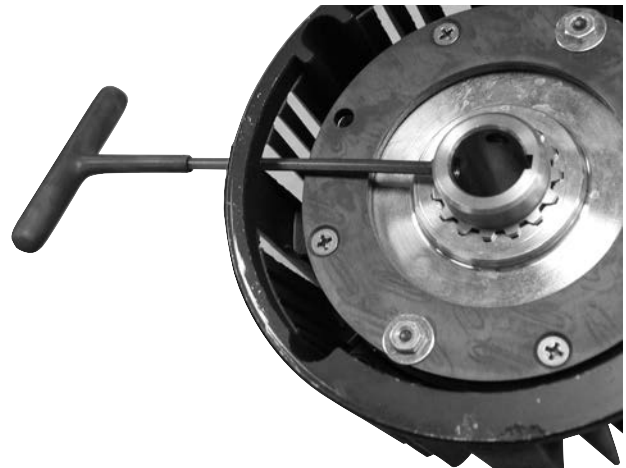

Figure 2
3. The input hub setscrews and the largest ventilation slots on the housing must be aligned to provide hex wrench access for tightening to the motor shaft. If they are not already aligned, apply the rated voltage to the brake coil to release the brake, and then rotate the shaft until the setscrews and slots are aligned. (Figure 2)